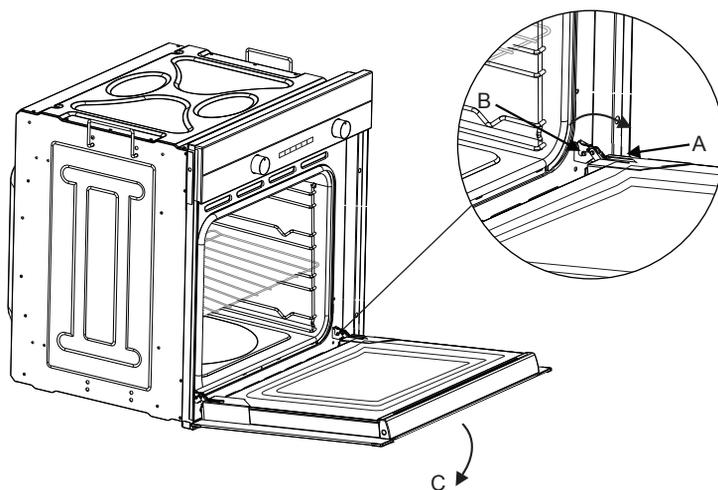

FIG. 2
Removing the door from the oven (Fig. 2)
- > Remember to turn the two moving links "B" used to engage the two hinges before closing the door (Fig. 2).